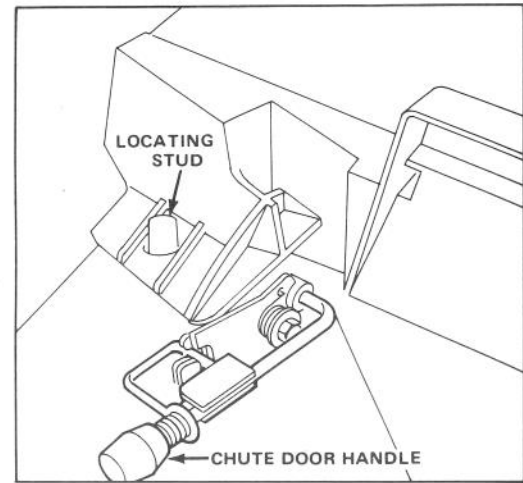

Figure 2
1. Assure chute door handle is fully forward and locked in place (Fig. 2).
2. Slide guide hole in bag door onto locking stud on mower housing (Fig. 2); then set rear of bag frame onto support rod.